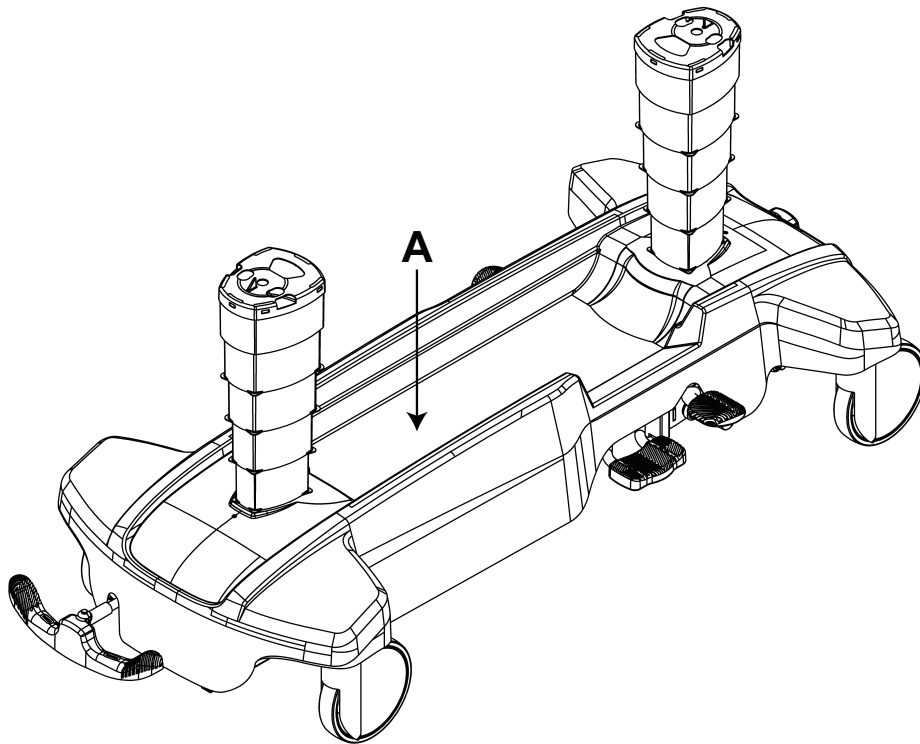

**Figure 11 – Base hood storage**
You can store patient belongings in the base hood (A) (Figure 11).